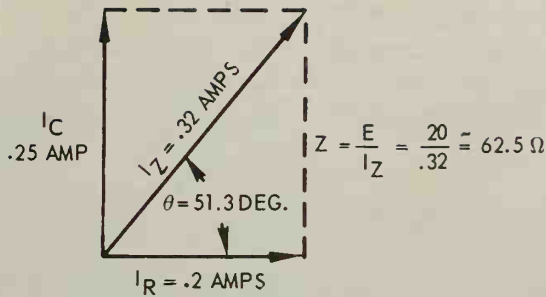

Fig. 9-28. The vector diagram for parallel RC problems in text.
3. Find I_{line} or I_Z . The current vectors are drawn to a convenient scale in Fig. 9-28.